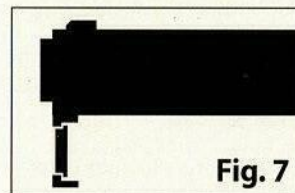

Fig. 7
2. Sometimes, depending the model is necessary to insert the DPM Plug or Washer to the slide first (**Fig.7 & 8**), then compress the External Spring with the DPM Recoil System in order to fit in the correct position on the barrel.